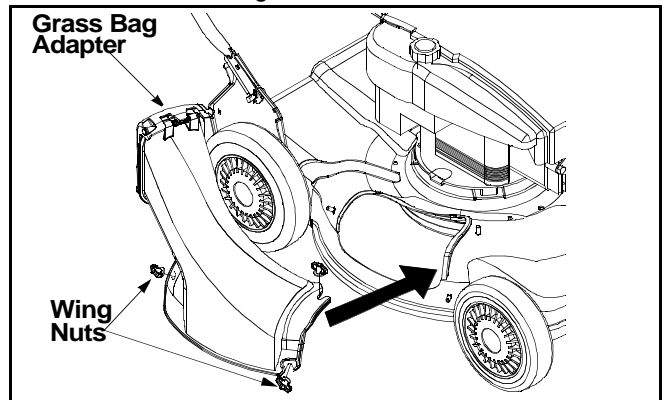

Figure 8
- Remove three wing nuts holding the mulching baffle or side discharge chute in place and remove from unit. See Figure 8.